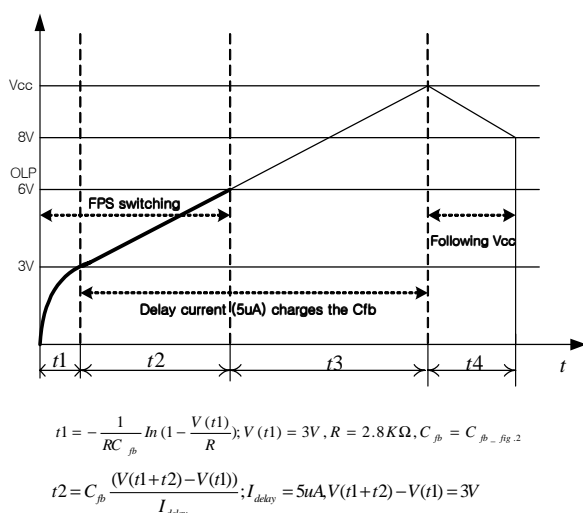

Figure 6. Over load protection
4.1 Over Load Protection (OLP) : Overload is defined as the load current exceeding a pre-set level due to an unexpected event. In this situation, the protection circuit should be activated in order to protect the SMPS. However, even when the SMPS is in the normal operation, the over load protection circuit can be activated during the load transition. In order to avoid this undesired operation, the over load protection circuit is designed to be activated after a specified time to determine whether it is a transient situation or an overload situation. In conjunction with the Ipk current limit pin (if used) the current mode feedback path would limit the current in the Sense FET when the maximum PWM duty cycle is attained. If the output consumes more than this maximum power, the output voltage (V_o) decreases below the set voltage. This reduces the current through the opto-coupler LED, which also reduces the opto-coupler transistor current, thus increasing the feedback voltage (V_{fb}). If V_{fb} exceeds 3V, the feedback input diode is blocked and the 5uA Idelay current source starts to charge Cfb slowly up to Vcc. In this condition, V_{fb} continues increasing until it reaches 6V, when the switching operation is terminated as shown in figure 6. The delay time for shutdown is the time required to charge Cfb from 3V to 6V with 5uA.